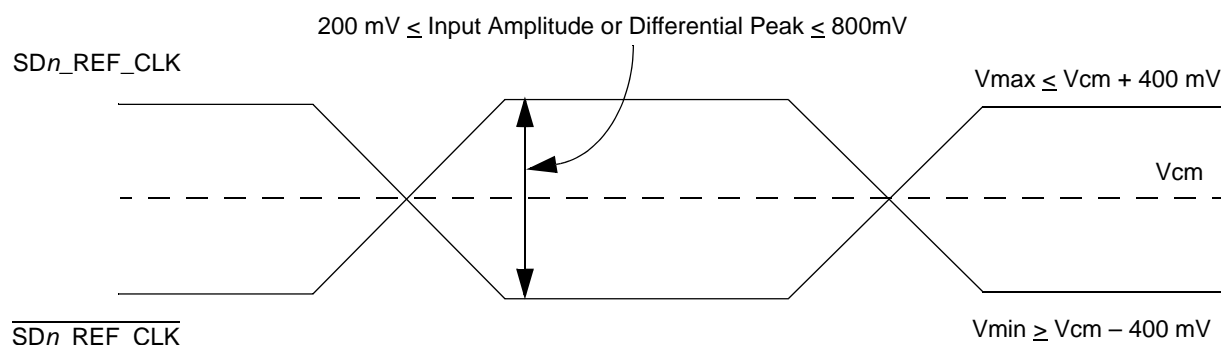

Figure 45. Differential Reference Clock Input DC Requirements (External AC-Coupled)
- For **external AC-coupled** connection, there is no common mode voltage requirement for the clock driver. Since the external AC-coupling capacitor blocks the DC level, the clock driver and the SerDes reference clock receiver operate in different command mode voltages. The SerDes reference clock receiver in this connection scheme has its common mode voltage set to SGND_SRDS. Each signal wire of the differential inputs is allowed to swing below and above the command mode voltage (SGND_SRDS). Figure 45 shows the SerDes reference clock input requirement for AC-coupled connection scheme.